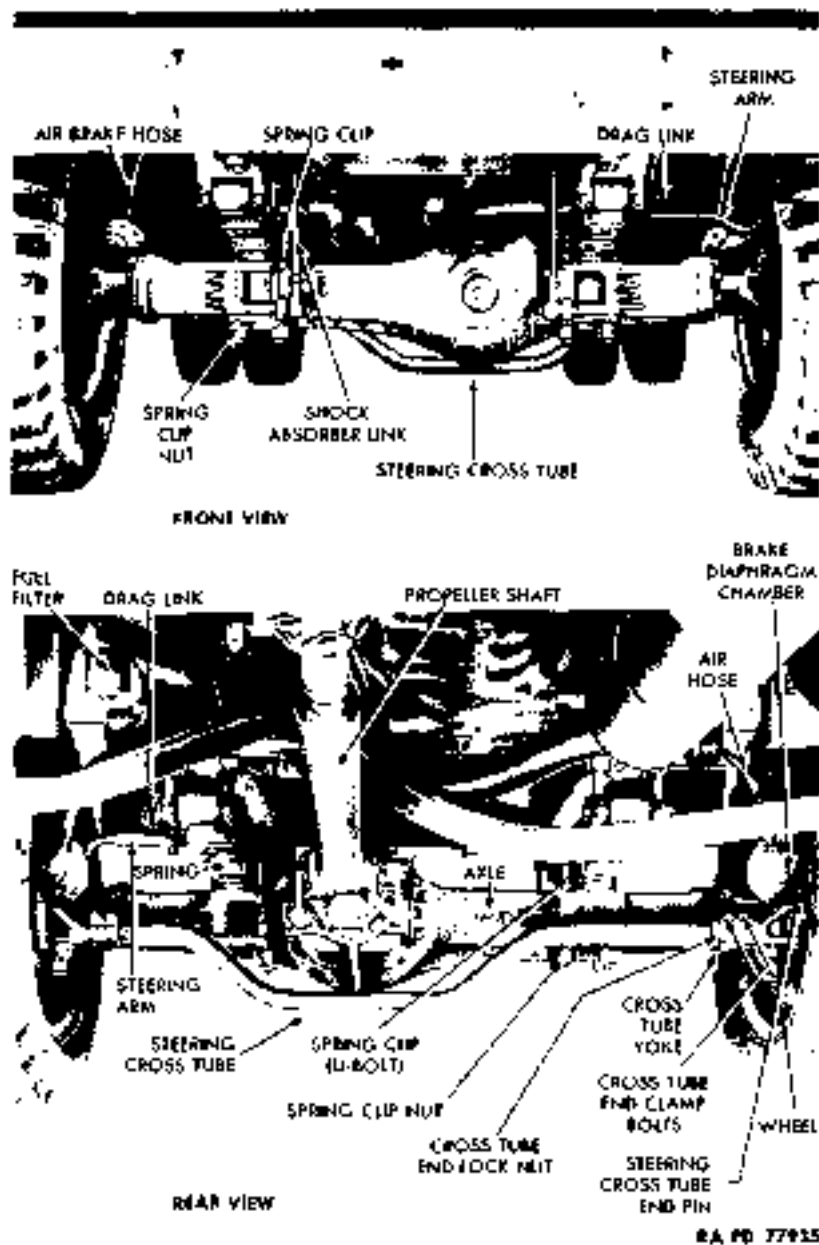

Figure 58 — Front Axle Installed
a. **Description** (fig. 58). The front axle is attached to frame through front springs. A gear carrier unit mounted on top of axle off center, permits propeller shaft to pass engine on left side and gives full road clearance. The axle housing is jointed at outer ends to permit full turning radius. A three-piece steering cross tube with threaded ends controls steering synchronization and toe-in. Different thread pitches on each end of cross tube permit close adjustment of toe-in.
b. **Toe-in Adjustment** (fig. 58). Remove the cotter pin, lock nut, and steering cross tube end pin which secure cross tube to wheel assembly. Loosen the two cross tube end clamp bolt nuts and bolts, and turn yoke end to increase or decrease toe-in. Left-hand tube end has 12 threads per inch, right-hand end 16 threads per inch. When toe-in of $\frac{3}{16}$ inch to $\frac{5}{16}$ inch is attained, position tube end to wheel assembly. Install tube end pin, and secure with the end pin nut and cotter pin. Tighten cross tube end lock nut, then tighten tube end clamp bolts and bolt nuts.
106. REMOVAL (fig. 58).
- h. **Remove Steering Cross Tube** (fig. 58). Remove the two cotter pins, tube end pin nuts, and tube end pins which secure cross tube to wheel assemblies. Remove cross tube.
107. INSTALLATION (fig. 58).
- b. **Install Steering Cross Tube** (fig. 58). Position tube to wheel assemblies, and install tube end pin at both ends. Secure with the two end pin nuts and cotter pins.